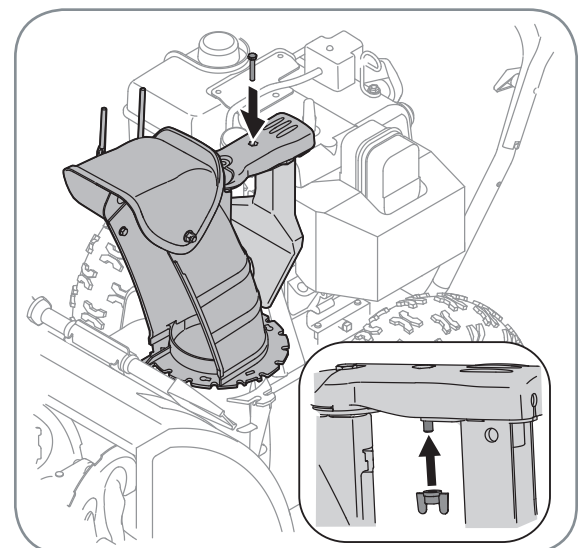

Figure 4
4. Secure the round end of the chute control assembly to the chute assembly with wing nut provided. See Figure 4.
5. Check that all cables are properly routed through the cable guide on top of the engine. See Figure 4.